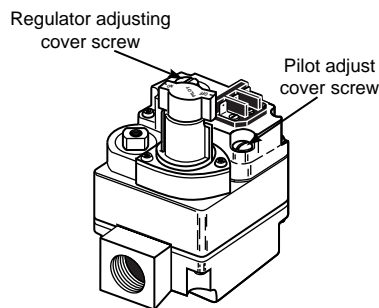

Figure 6. Pressure regulator adjustment
2. Remove "Reg. Adj." cover screw (see fig. 6).
- Depress gas control knob slightly and turn clockwise to **OFF** (see fig. 6). If knob is in **ON**, turn clockwise to **PILOT**, then depress knob slightly and turn clockwise to **OFF**.
- Wait fifteen (15) minutes to clear out any gas. If you then smell gas, **STOP!** Follow **B** in the precautionary information above. If you don't smell gas, go to next step.
- Depress control knob all the way and hold in. **Immediately** light the pilot with a match. Continue to hold the control knob down for about one (1) minute after the pilot is lit. Release knob and it will pop back up. Pilot should remain lit. If it goes out, repeat steps 4, 5, 8, and 9.